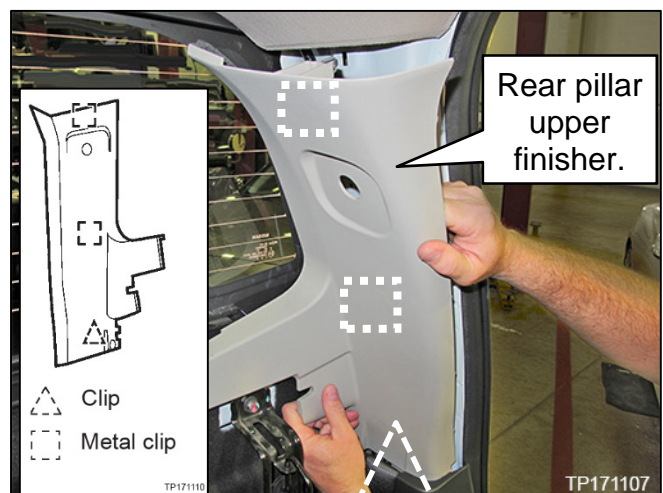

Figure 9
7. Remove the rear pillar upper finisher by releasing the clips shown in Figure 9.